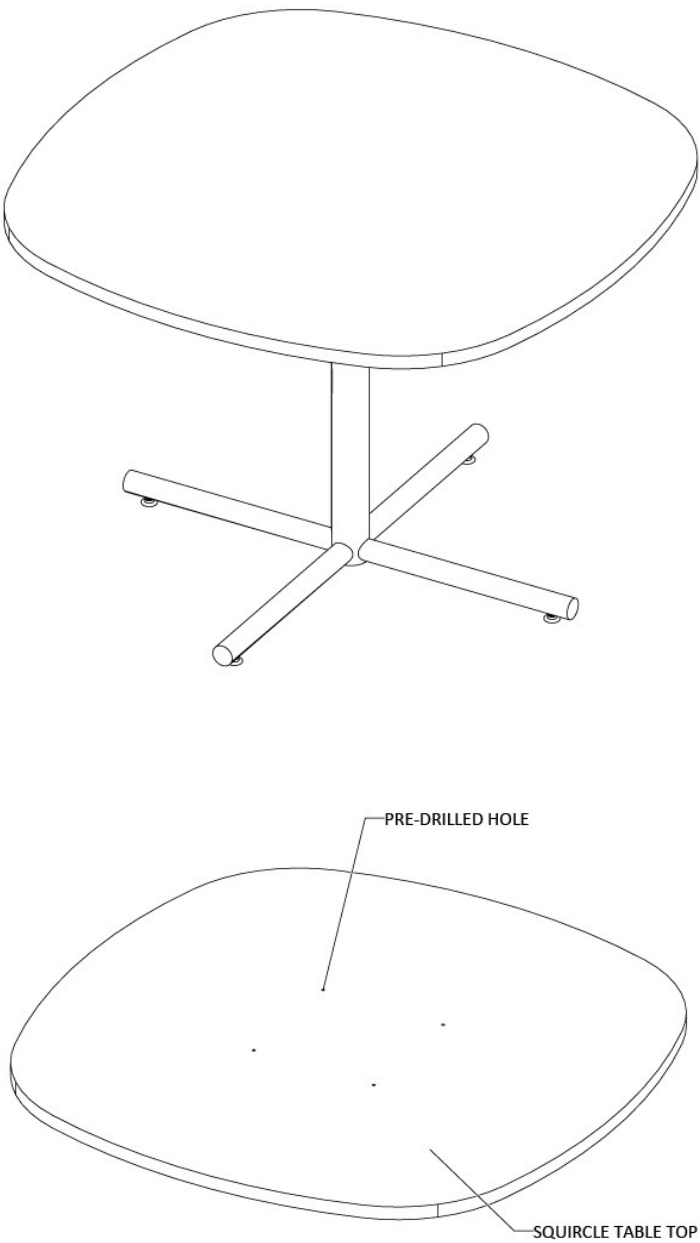

Figure 1
- 1. Place the squircle table top on a clean solid surface or floor with the underside facing up, (Figure 1).